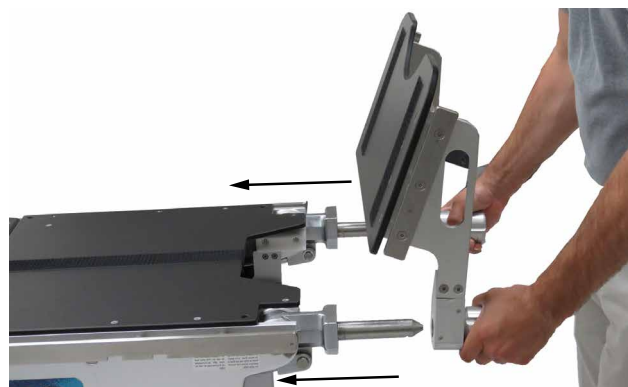

Figure 3. Installing General Tilt Seat
3. Slide the General Tilt Seat onto the leg axis pins (Figure 3): Align the holes on the General Tilt Seat with the leg axis pins and push it in until it clicks into place. Test that it is securely attached.